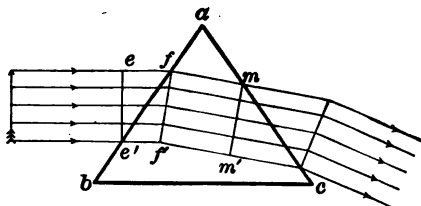

FIG. 158
**223. The Prism.** — Glass, being a transparent medium and denser than air, is commonly used as a refractive agent. One of the simplest forms in which glass is so used is the *prism*, shown in cross section in Fig. 158.